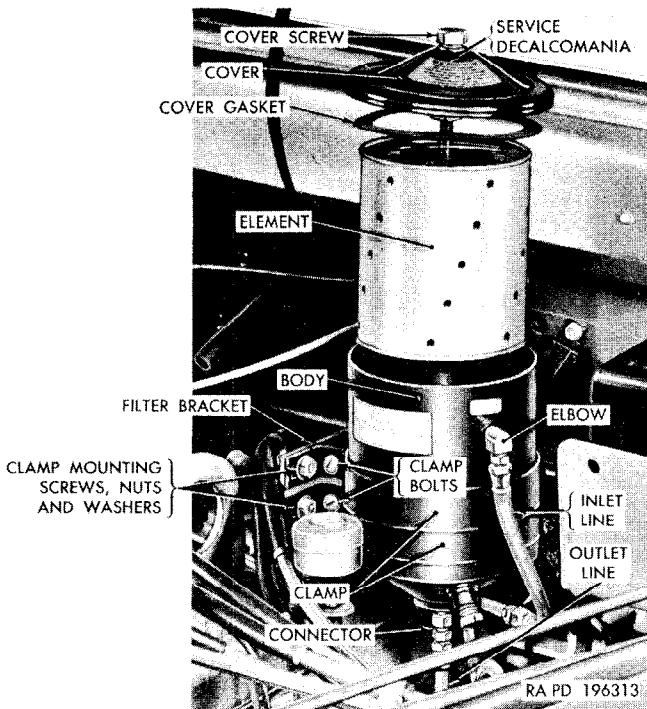

Figure 80. Replacing oil filter element.
a. Remove Oil Filter Element (fig. 80).
- (3) Clean the inside of the filter body and the cover with dry-cleaning solvent or volatile mineral spirits and wipe with a clean cloth.
b. Install Oil Filter Element (fig. 80).
- (1) Install the $\frac{1}{4}$ -inch pipe plug in the drain opening of the filter body.
- (2) Install a new filter element in the body.
c. Remove Oil Filter, Oil Line Fittings, and Filter Clamps (fig. 80).
- (1) Drain oil filter (*a*(1) above).
- (2) Disconnect inlet line from the elbow.
- (3) Disconnect outlet line from the connector at the bottom of the filter body.
- (4) Remove oil filter clamp mounting nuts, lockwashers, bolts, and plain washers and remove the oil filter and filter clamp
- (1) Inspect oil filter body for leaks and damaged threaded surfaces. Replace a damaged oil filter.
- (2) Inspect the elbow (inlet line) and the connector (outlet line) for damaged threads or cracks. Replace damaged fittings.
e. Install Oil Filter, Oil Line Fittings and Filter Clamps (fig. 80).
- (1) If the filter inlet and outlet lines were removed, install lines (*h* below).
- (2) Install filter clamp (or clamps) on the oil filter body. For the Fram filter, install a $\frac{1}{4}$ -20NC x $2\frac{1}{4}$ clamp bolt through each clamp and install a $\frac{1}{4}$ -20NC square nut on each bolt. For the Purolator filter, install a $\frac{5}{16}$ -18NC x $2\frac{1}{2}$ clamp bolt and $\frac{5}{16}$ -18NC square nut in the manner described above.
- (3) Install the $\frac{1}{4}$ -inch, $\frac{1}{8}$ -inch male pipe end, inverted flared tube connector in the filter body outlet opening.
- (4) Install the $\frac{1}{4}$ -inch, 90° , inverted flared tube elbow in the inlet opening of the filter body.
- (5) Install the $\frac{1}{4}$ -inch pipe plug in the filter body drain opening.
- (6) Install a $\frac{5}{16}$ -inch plain washer on each of the four $\frac{5}{16}$ -24NF x $\frac{3}{4}$ clamp mounting bolts. Position the oil filter and clamp (or clamps) on the filter bracket and install the four clamp mounting screws, $\frac{5}{16}$ -inch lockwashers, and $\frac{5}{16}$ -24NF nuts. Do not tighten the nuts.
- (7) Position the filter so that clearance exists between the bottom of the filter and the filter bracket. Tighten each clamp bolt. Tighten the nuts on the four clamp mounting screws.
- (8) Connect the outlet line to the connector in the bottom of the filter body.
- (9) Connect the inlet line to the elbow.